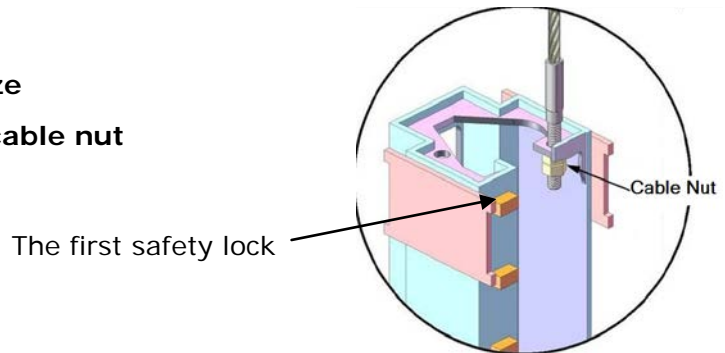

Fig. 37
1. Adjust synchronous cable (See Fig. 37)